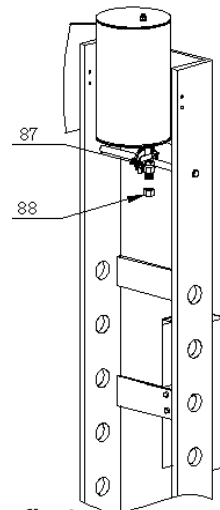

fig.6
3. Take off the plunger(88) from Valve(87) (Avoid the O-ring fall down from Valve(87) refer to fig 6